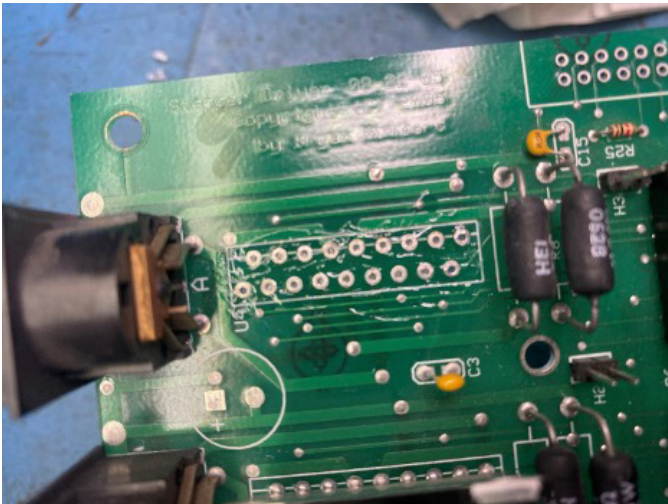

FIGURE 10—Front side of the circuit board.
6. Apply fresh Flux on both sides of the Motor Driver Chip holes (see Figures 10 and 11).